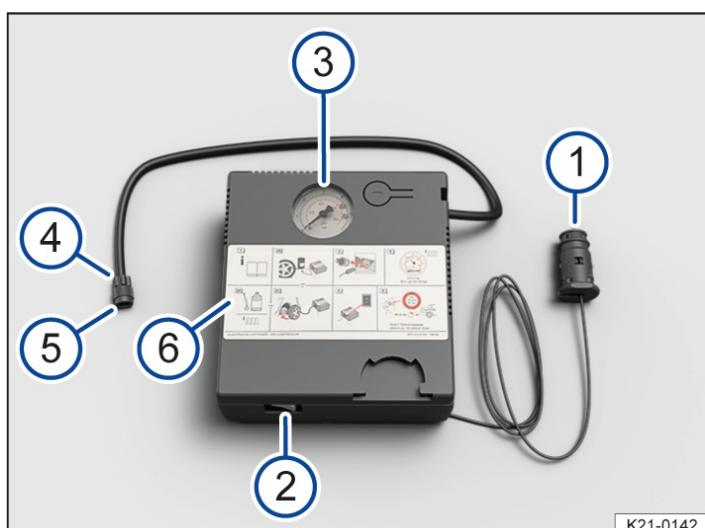

Fig. 2 Illustration: compressor from the breakdown set.
1. Screw the tyre filler hose → *Fig. 2* 5 of the air compressor tightly onto the tyre valve.
2. Make sure that the air bleed screw → *Fig. 2* 4 is closed.
4. Insert the 12-volt plug → *Fig. 2* 1 into one of the vehicle's 12-volt sockets (→ Sockets).
5. Use the ON/OFF switch → *Fig. 2* 2 to switch on the air compressor.